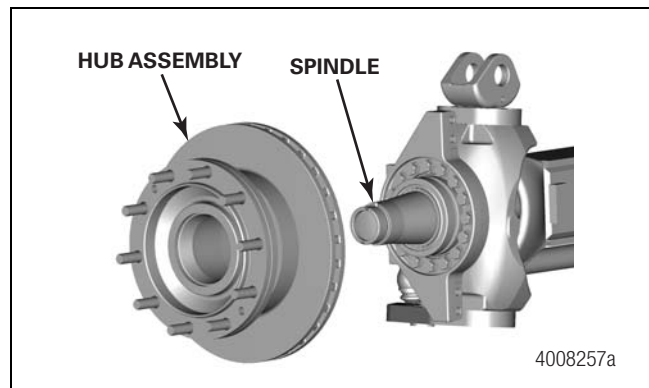

Figure 14.2
7. Install the hub assembly onto the spindle. Ensure that the seal lip is not damaged from contact with the spindle during installation. Figure 14.2.